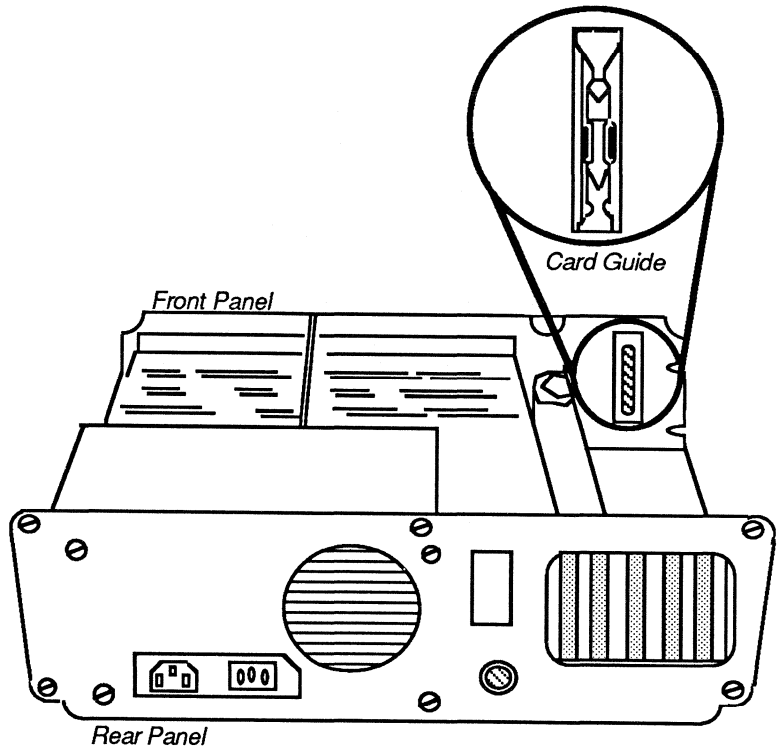

Figure 1-6. Installing the Card Guide
5. Snap the plastic card guide supplied with the Logic Programmer card into the expansion slot on the front panel as shown in Figure 1-6.